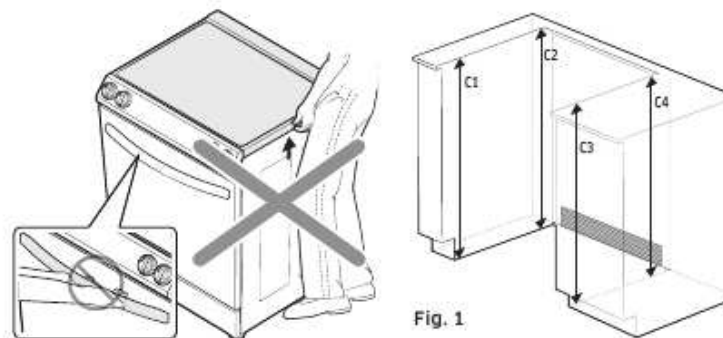

Fig. 1
2. Before installing the unit, measure the heights of the two cabinet sides (C1-C4), front and back (See Fig. 1) from the floor to the top of the counter.
1. Prepare the conduit cord as shown in Figure 1.